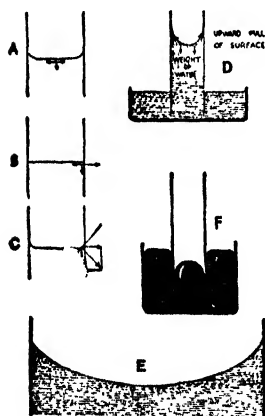

FIG. 38.—Shape of a liquid surface in a narrow tube.
along a tube made of some material which it wets. If we dip a number of glass tubes in water, the water rises in them for a certain distance and finally stops with its surface set in a curve which we call a "meniscus." The narrower the tube is, the higher the liquid rises and the sharper is the curve. The simplest explanation of this is not very simple! Think of a water molecule (Fig. 38 A) in the surface and away from the wall of the tube. It is pulled sideways and downward by its neighbouring water-molecules. The pull on the surface is downward and as a liquid (p. 87)
always keeps its surface at right angles to the pull on it, the surface stays flat. Now think of a surface molecule near the glass walls. It is pulled to the left by water molecules, to the right by glass molecules and downward by water molecules (Fig. 38 B). Now glass molecules attract water molecules more strongly than these attract each other, so the water molecule is pulled to the right harder than it is pulled to the left; so the total pull made up of right, left and down is a *sideways* pull (Fig. 38 C). The liquid sets itself at right angles to this. Hence the curve. It is easy to see that the nearer the molecule is to the glass, the more it will be attracted and the steeper the curve will be. Fig. 38 (E) shows the exact shape of the surface of the water in a tube of one-twelfth inch bore.
The consequence of this is that the water hangs on to the glass, and the curved elastic surface, in trying to straighten itself, pulls upward (Fig. 38 D). Something must balance the pull and the only thing that can do it is the weight of the water. So the water goes up the tube till its weight pulling down balances the curved film pulling up. The narrower the tube, the sharper the curve and the bigger the upward pull as is illustrated in Fig. 39 (G).
Fig. 38 (F) shows what happens when a narrow glass tube is pushed into mercury which it does not wet. Remembering that mercury molecules attract each other *more* than they attract glass molecules, it may amuse you to figure out why it gives a convex curve and goes down the tube.